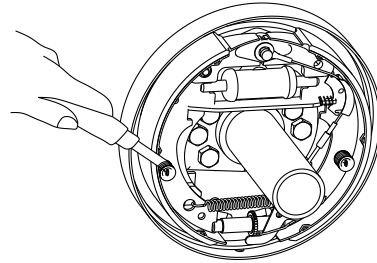

Fig. 2-12
(3) Remove the hold-down springs. (See Fig. 2-12)